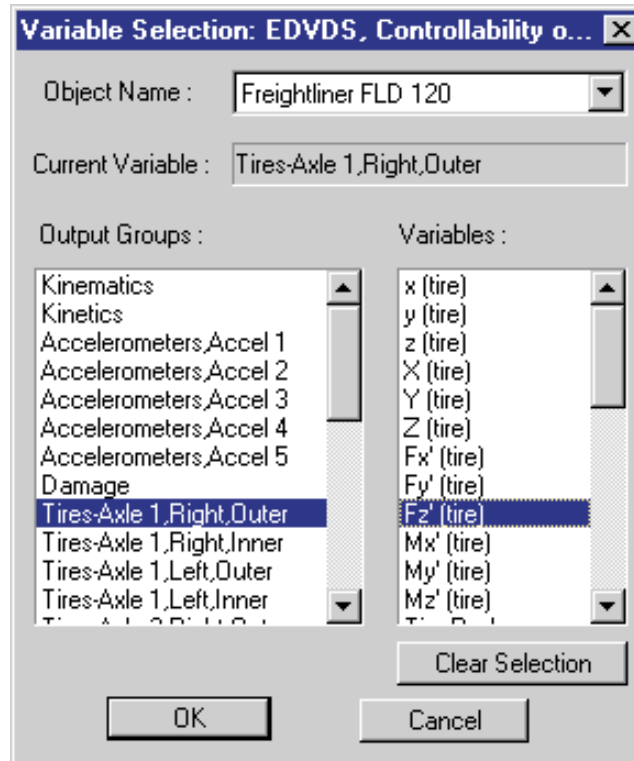

Figure 5-27 Variable Selection Dialog.
- Click *Tires* and choose *Axle 1, Right, Outer* from the cascade menus. The Variable Selection list for the right front tire is displayed (see Figure 5-27).